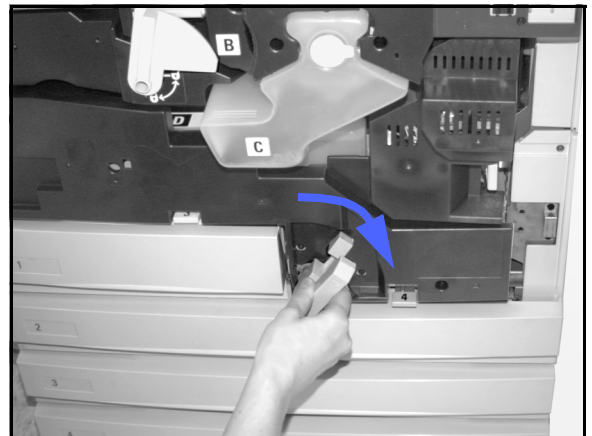

Figure 9: Rotating the green handle clockwise
- 2 Rotate the green handle clockwise, as illustrated in Figure 9, and pull out the Paper Path Module until it is fully open.